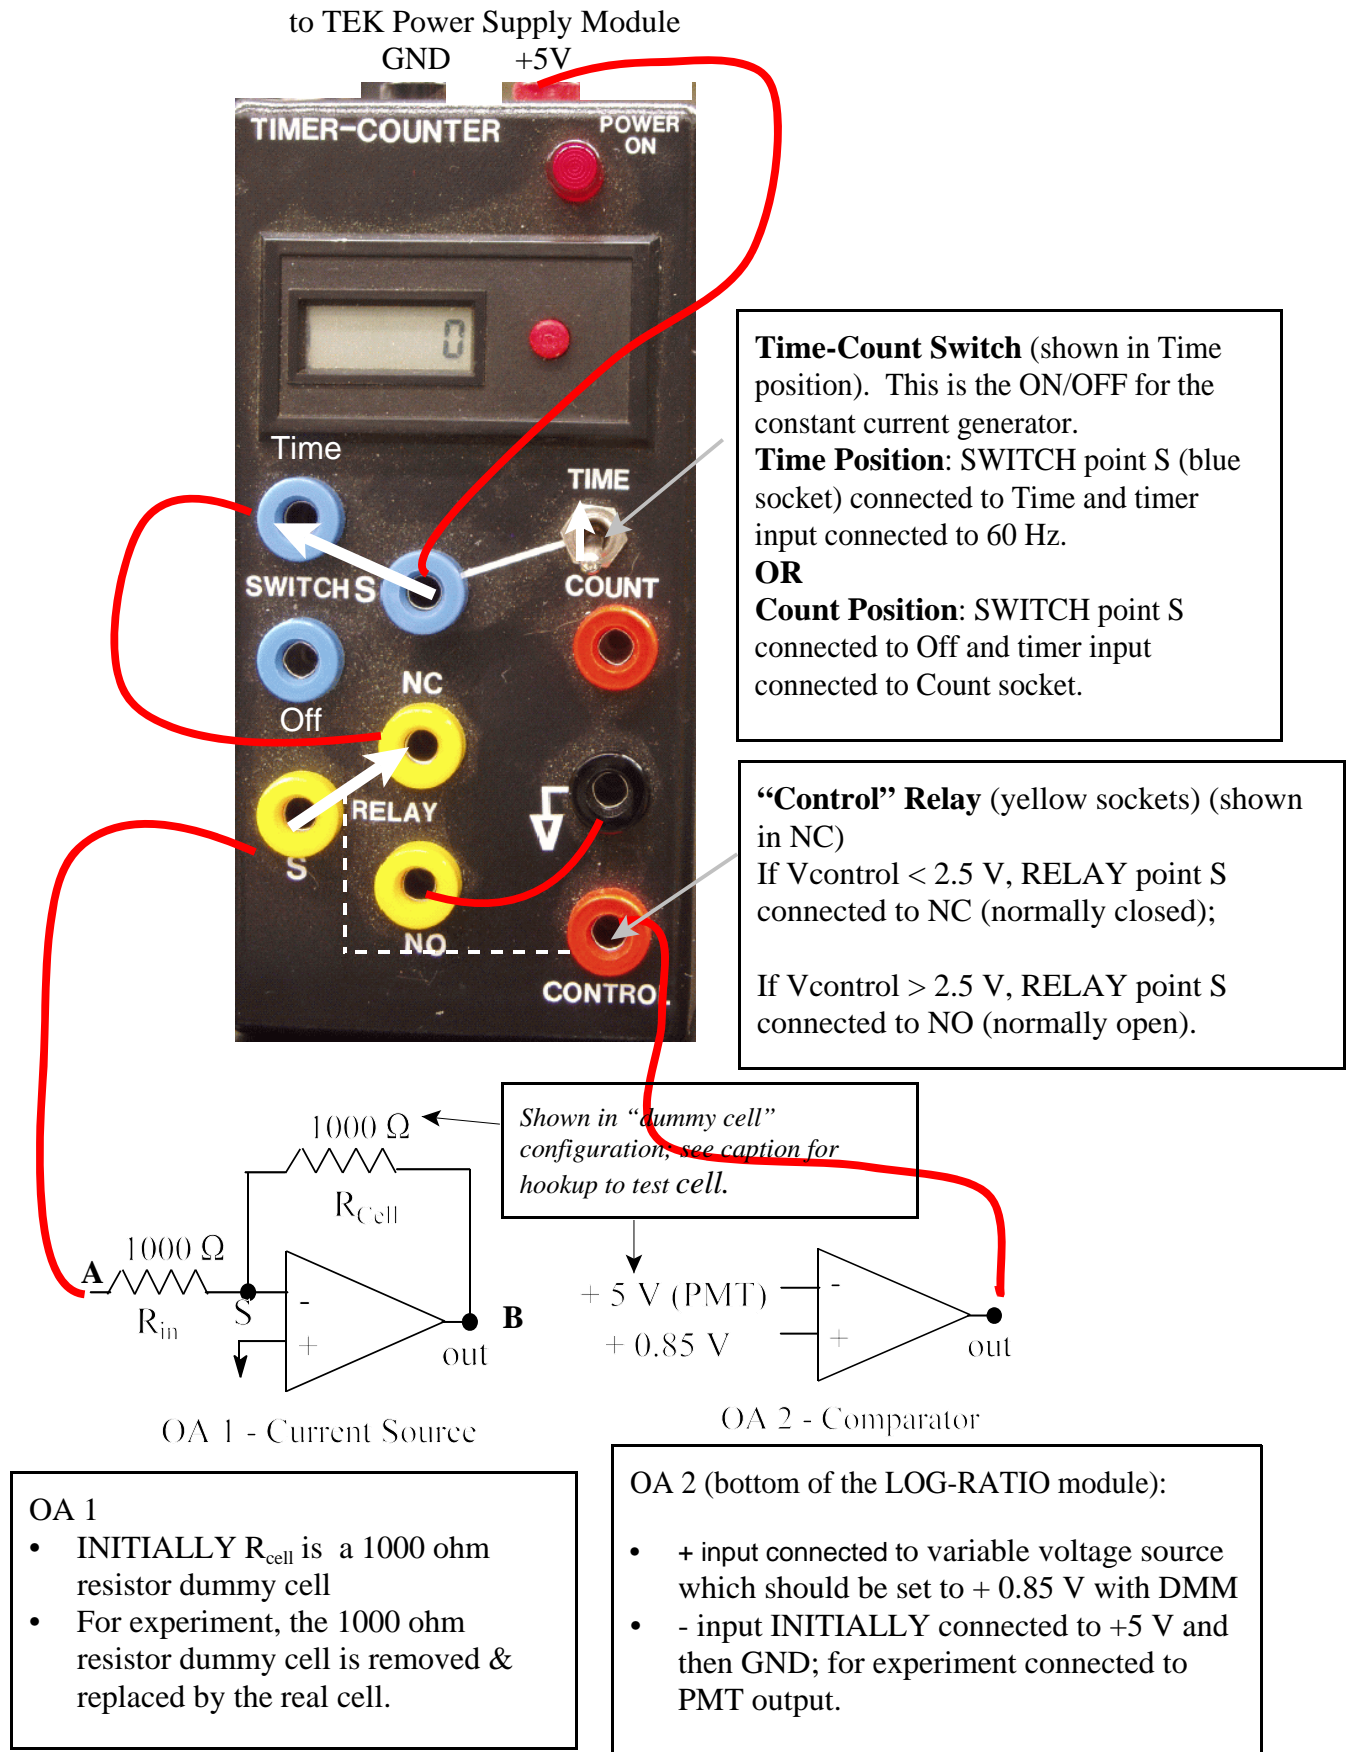

Figure 2. Timer Counter & Electronics setup.
Figure 2 on the next page illustrates the timer/counter electronic schematic. OA-1 is used to provide a constant current through the reaction cell and OA-2 is used as a comparator. The Timer-Counter module provides a timer with 1/60 of a second resolution and an electrical relay to control the passage of current to the reaction cell.
c. Now complete the wiring as indicated in Fig. 2.**d. Simulate the “titrate” and “hold” modes of the circuit and verify that they work as designed.**
- **Simulate “titrate”** by moving the Time / Count switch to the Time (ON) position (with the inverting input of OA-2 connected to + 5 V to simulate 100% T from PMT).
- Point A (Fig. 2) is +5 V (to drive constant current source);
- Point B (Fig. 2) is -5V (to sink current);
- **Now simulate “hold”** by moving the Time / Count switch to the Time position (ON) to start the titrate mode and then move the “dummy PMT” lead from the inverting input of OA-2 to ground to simulate 0 %T and “hold”.